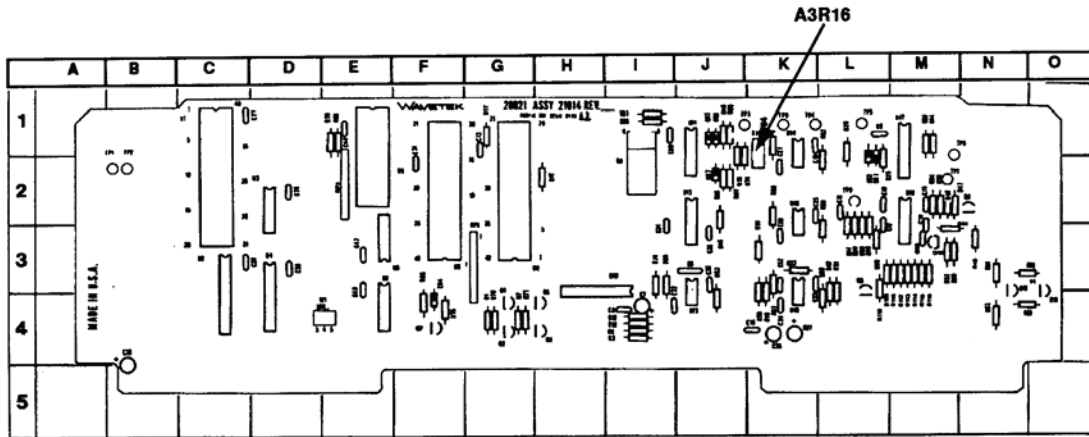

Figure 1. A3R16 - adjustment location.
- (1) Press **CLEAR** key.
- (2) Connect power meter to **CALIBRATOR 1 GHz** output.
- (3) Press number **7** key.
- (4) Press any number key. If power meter indication is negative (e.g., -0.2 dBm), adjust A3R16 (fig. 1) cw to approximately twice the error or, if power meter indication is positive (e.g., +0.2 dBm), adjust A3R16 (fig. 1) ccw to approximately twice the error (R).
- (5) Press any number key. If power meter does indicate 0.00 dBm, repeat (3) and (4) above.
- (6) Disconnect TI from power meter.
- (7) Press **CLEAR** key.
- (8) Connect RF detector **A** to **CALIBRATOR 1 GHz** output.
- (9) Press any **UNITS** key (**nS** or **μS** or **mS** key). Wait for TI to calibrate itself before proceeding to (10) below.
- (10) Disconnect RF detector A from **CALIBRATOR 1 GHz** output.
- (11) Connect RF detector B to **CALIBRATOR 1 GHz** output.
- (12) Press any **UNITS** key (**nS** or **μS** or **mS** key.) Wait for TI to calibrate itself before proceeding to (13) below.
- (13) Disconnect RF detector B from **CALIBRATOR 1 GHz** output.